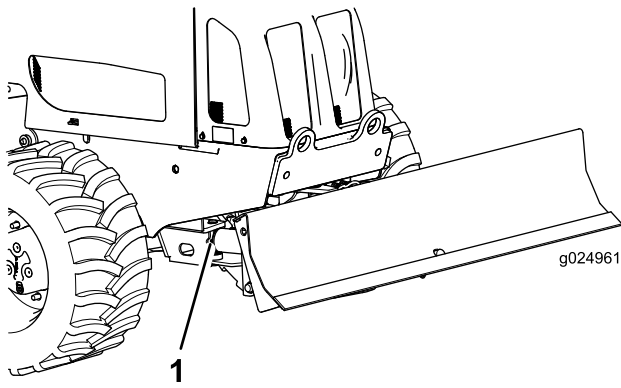

Figure 63
2. Connect the grease gun to the fittings on each blade-angle cylinder, and apply 3 pumps of grease to each fitting (Figure 63).